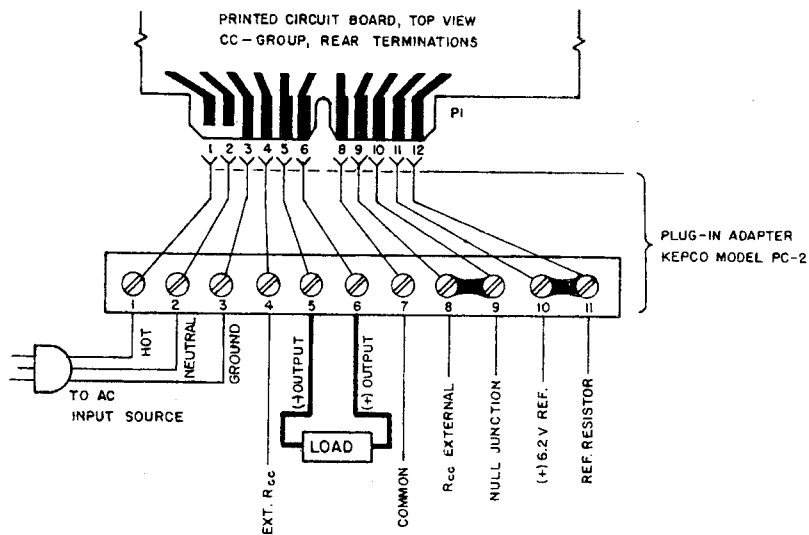

FIG. 2-2 REAR TERMINATIONS.
- b) REAR: Refer to FIG. 2-2.
- Refer to rear termination diagram (FIG. 2-2) and par. 2-4 for correct primary a-c connections. Connect supply to power line.